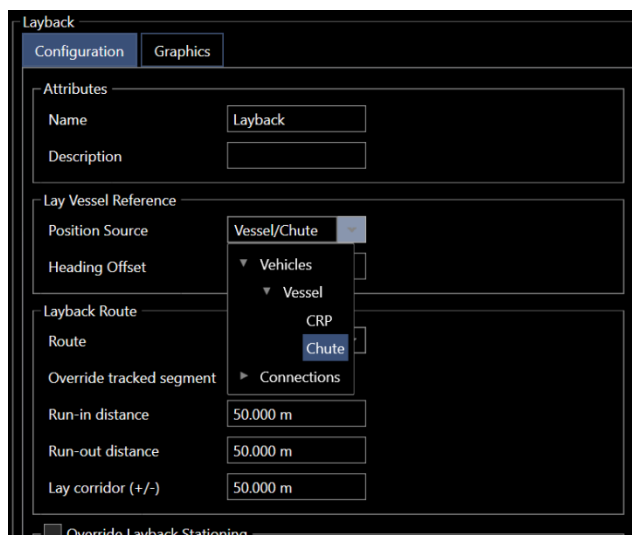

FIGURE 15-35 CONNECTIONS – LAYBACK - LAY VESSEL POSITION SOURCES
- **Position Source:** Choose a position source. Note that sources are listed in a hierarchical fashion. Below each vehicle its offsets are listed, as shown in Figure 15-35.